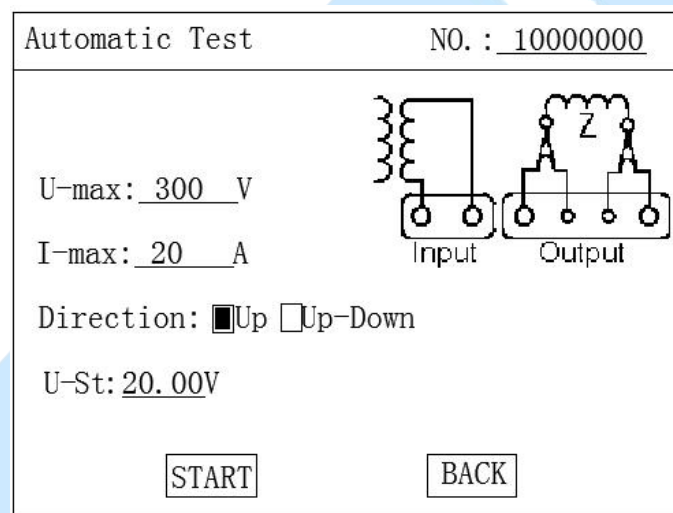

Figure 3 Automatic Test Parameter Setup Interface
1) The working power of the instrument is switched on and the power switch is turned on. After the instrument is reset, the system will enter the interface as shown in Figure 1. Then you can press the “↑” and “↓” keys to select “Automatic” and press “OK” to enter the “Automatic Test Parameter Setup” interface as shown in Figure 3. The wiring diagram of the test is displayed on the right of the interface.